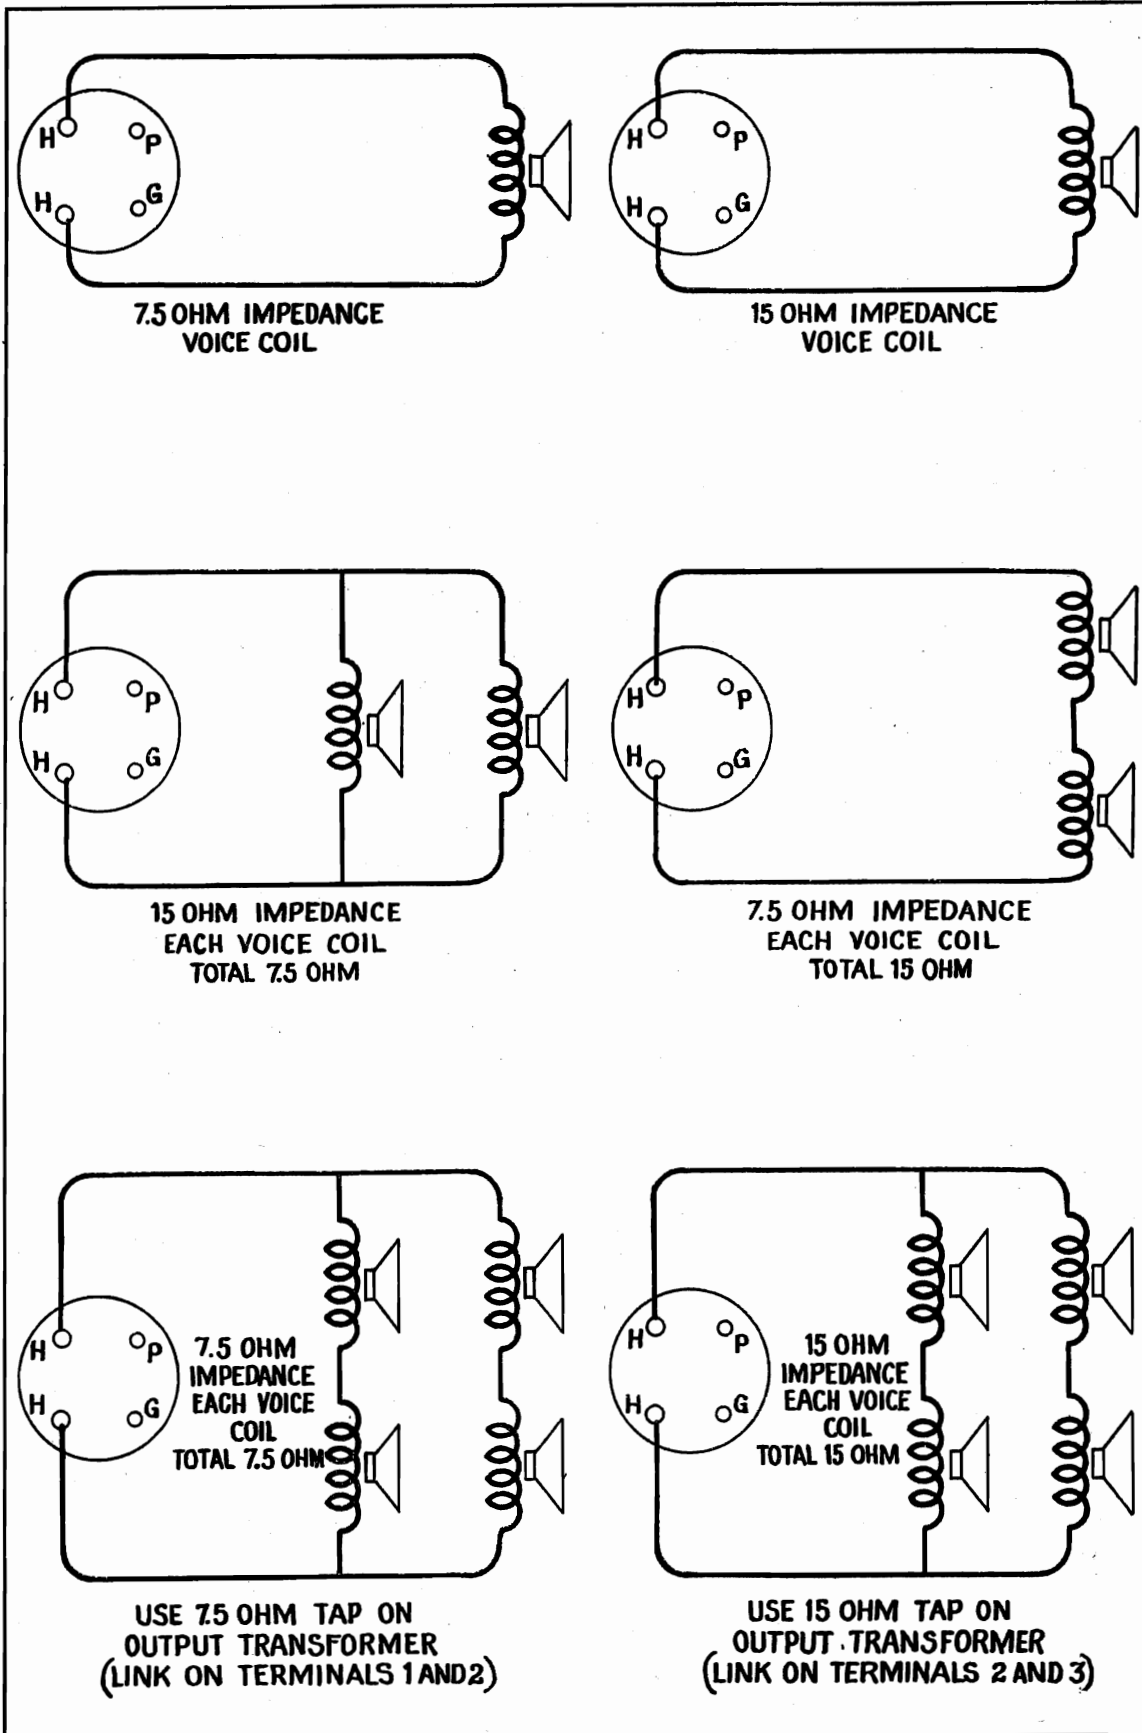
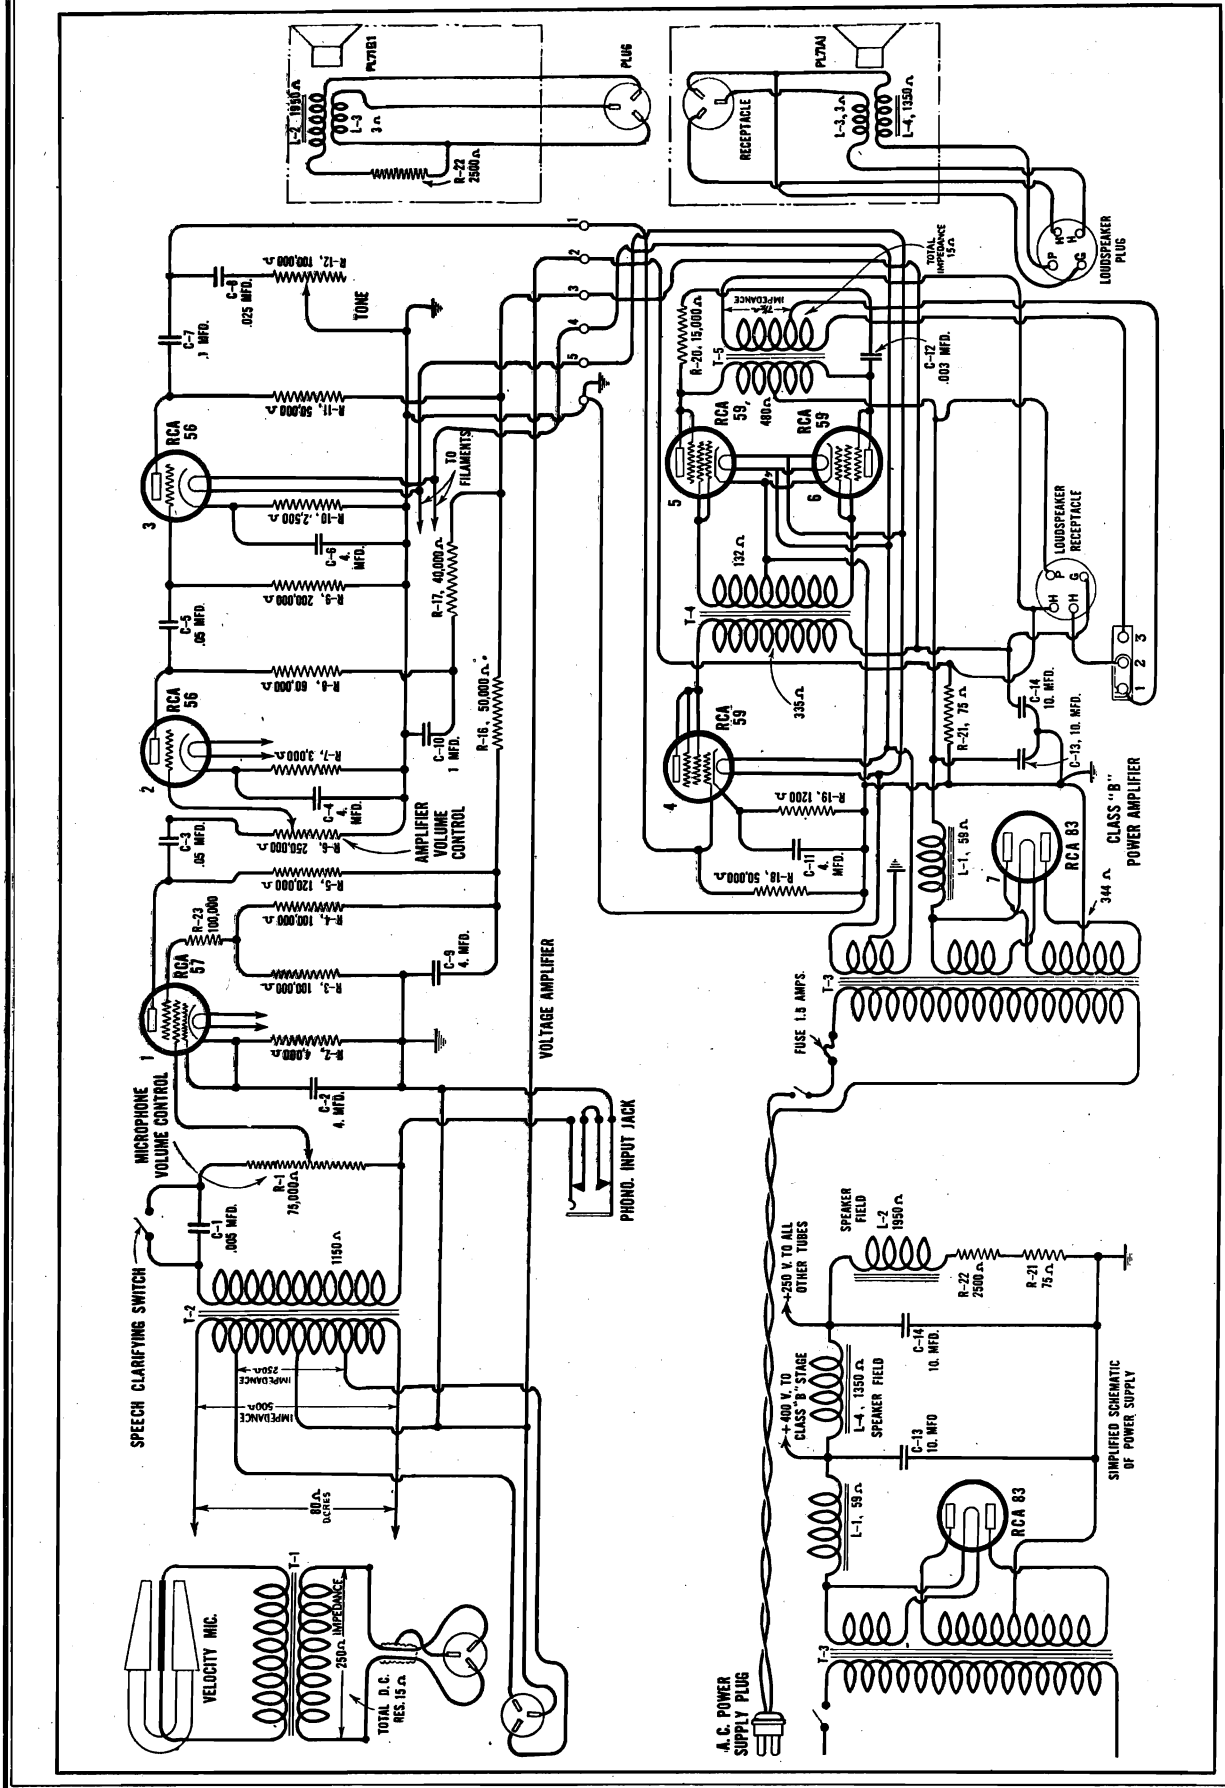
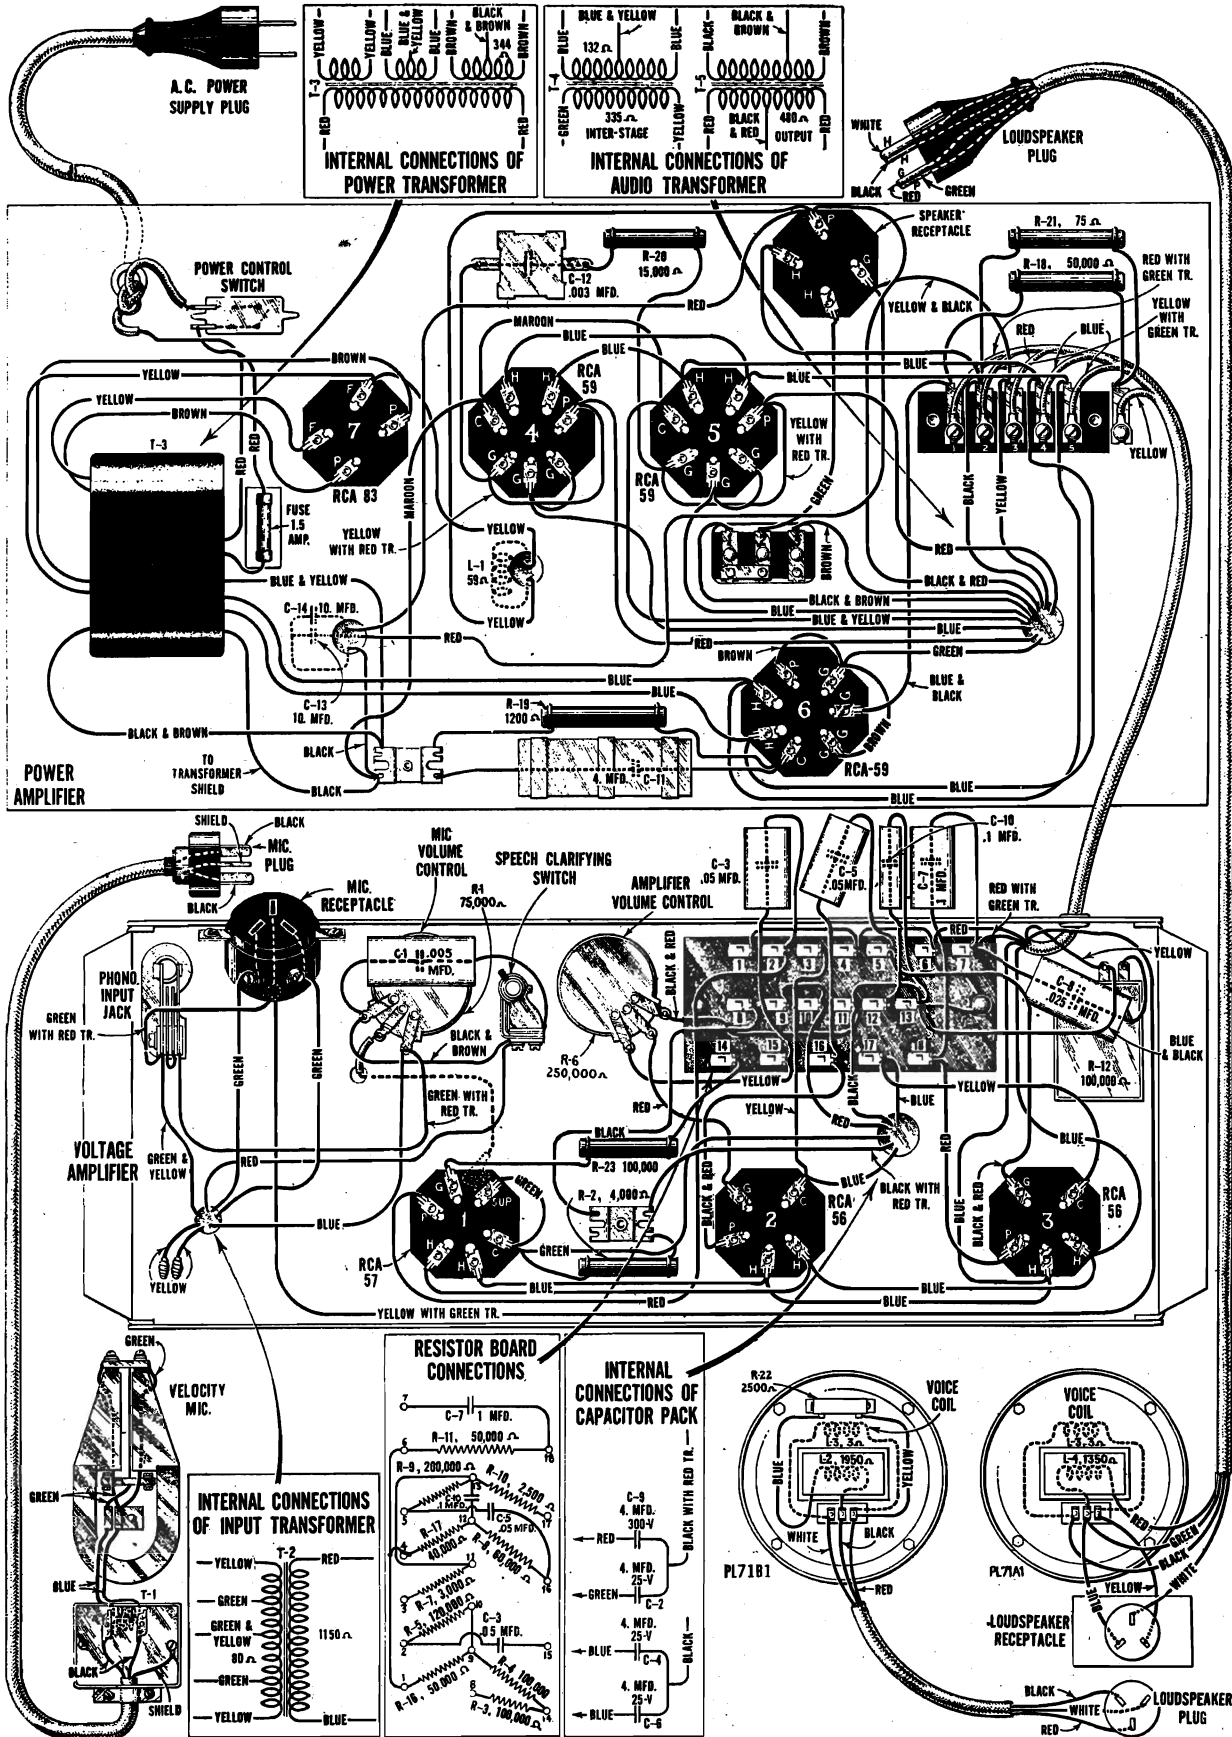
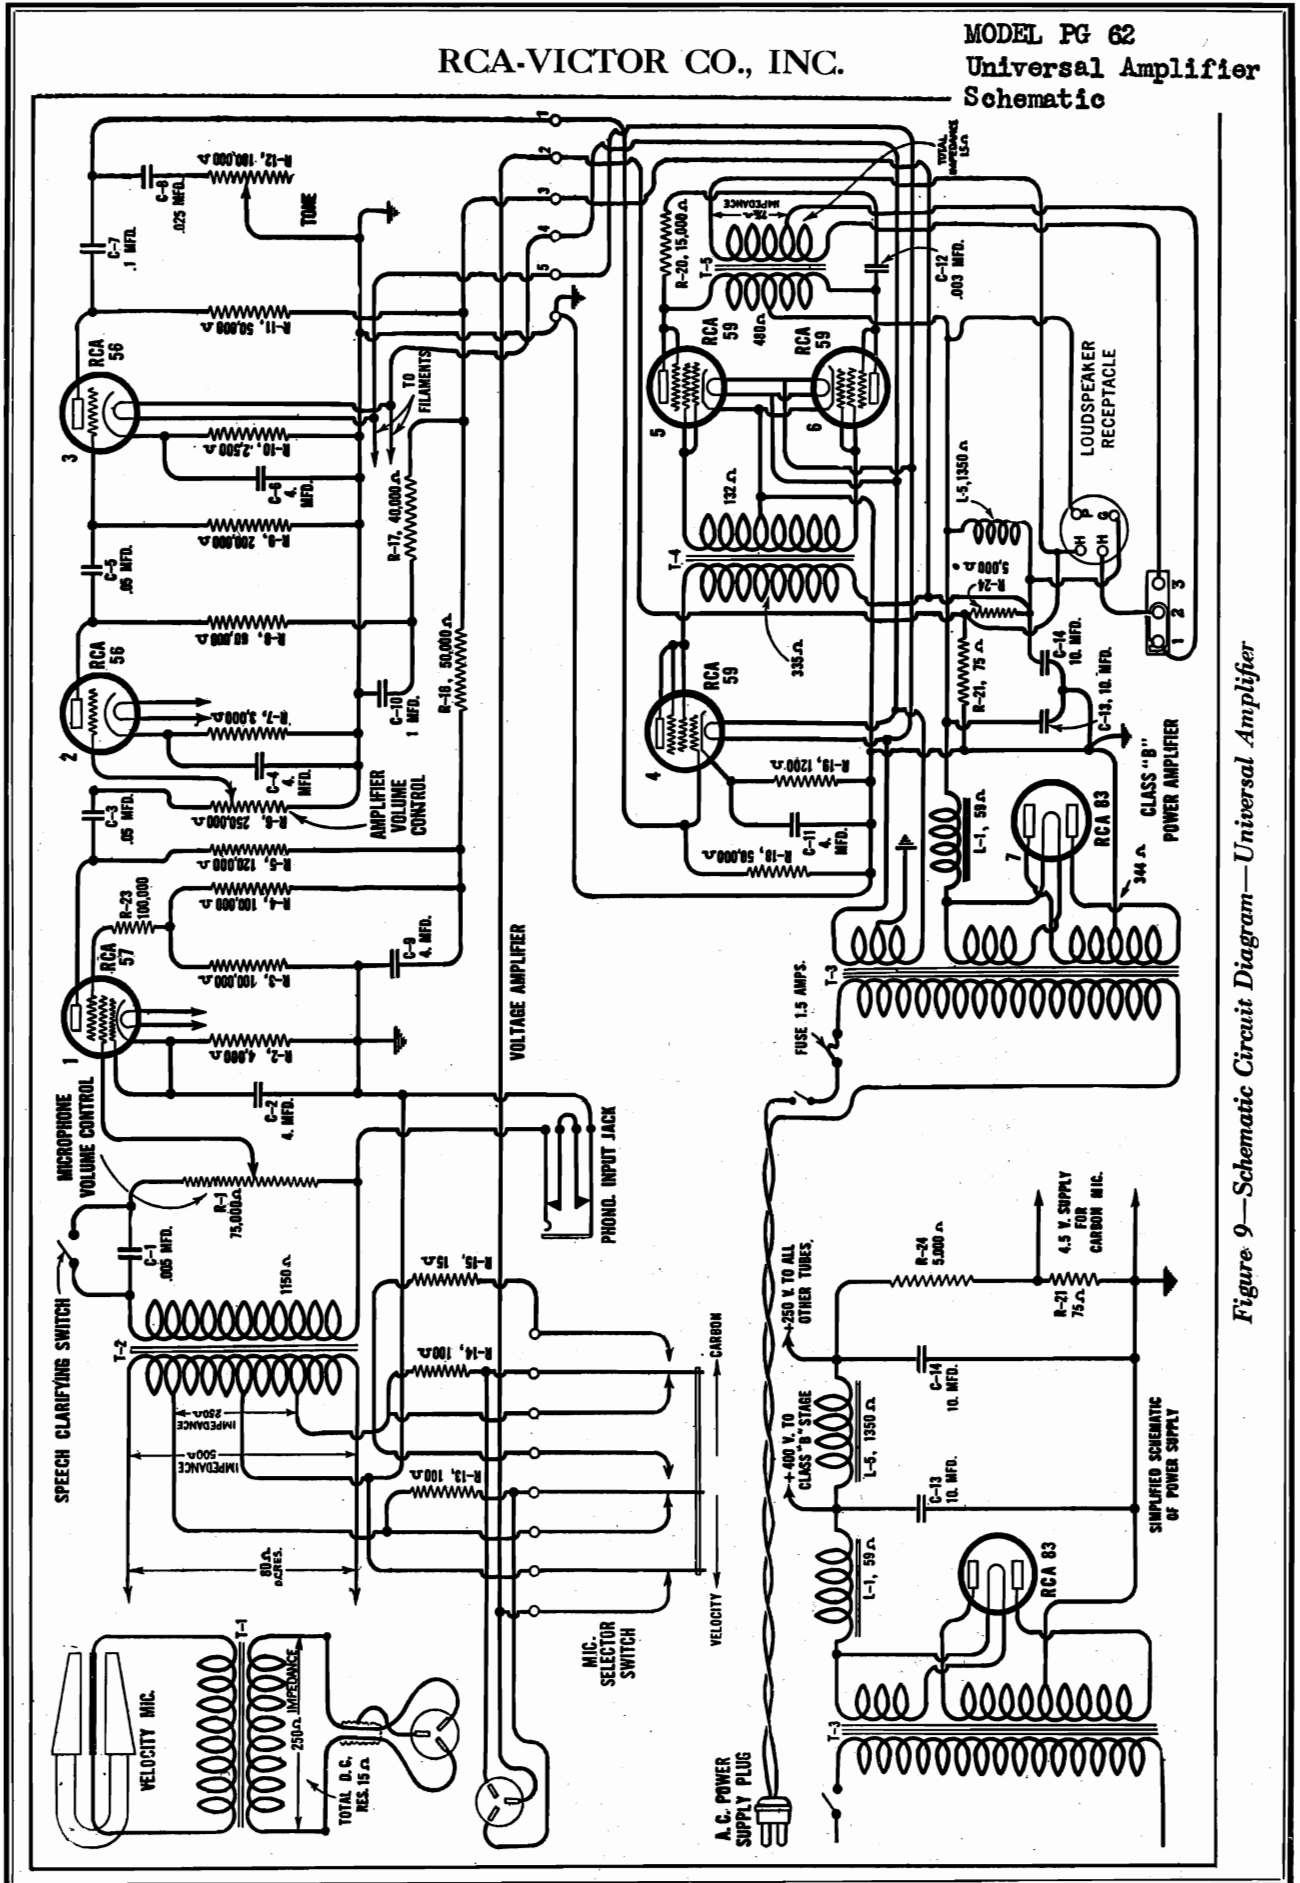

Figure 3—Loudspeaker Wiring
Figure 7—Schematic Circuit Diagram—PG-62 Equipment
Figure 8—Wiring Diagram—PG-62 Equipment
Figure 9—Schematic Circuit Diagram—Universal Amplifier
4. Make connections between the loudspeakers and the four pole loudspeaker plug, furnished with the amplifier, as indicated in Figure 3. Insert the loudspeaker plug into the corresponding receptacle on the side of the power amplifier base.
- (c) If the Model PB89A1 power amplifiers are used, connect a set of loudspeakers to each power amplifier as shown in Figure 8. If the Model PB89B1 power amplifiers are used, connect a set of loudspeakers to each power amplifier as shown in Figure 3.
The schematic wiring diagram for the PG-62 Equipment is shown in Figure 7. The wiring diagram for the complete PG-62 Equipment is shown in Figure 8. Figures 9 and 10 show the schematic and wiring diagrams respectively for the Universal Amplifier.